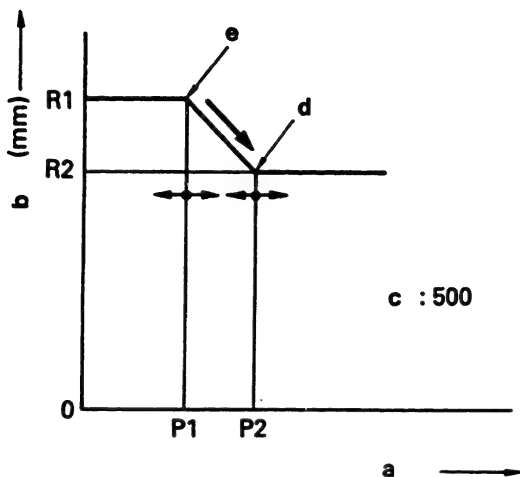

Fig. 63
3. Increase pressure and then decrease gradually to check that at P_1 the control rack will begin to move from R_1 in the "fuel-decrease" direction, and then stop at P_2 . If the result does not conform to specifications, adjust shim thickness by detaching the diaphragm. (Fig. 63)